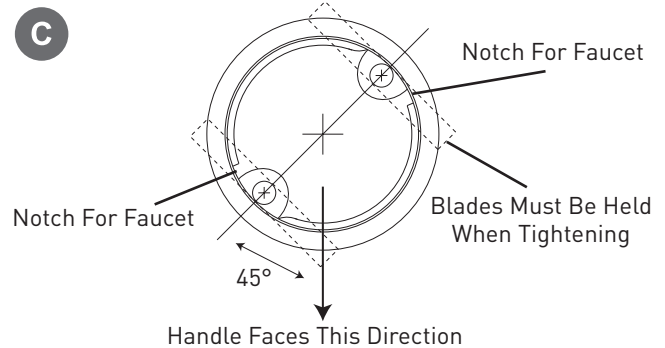

Figure 5
- Look down through the base for this step. Before tightening the bolts, determine the correct rotation of the base. The final position of the handle will be 45 degrees off from the bolt heads. Use Figure 5 to help determine the best position for your installation. Through the hole in the base, hold the toggle in position while tightening the bolt. The spring loaded toggle will contact the bottom of the counter top and hold in position. Do not fully tighten. Repeat for second toggle bolt. Check the final position of the base and toggle bolts. Tighten the two bolts evenly. **DO NOT OVERTIGHTEN.** Tighten only far enough to prevent the base from rotating when the faucet is rotated in place.